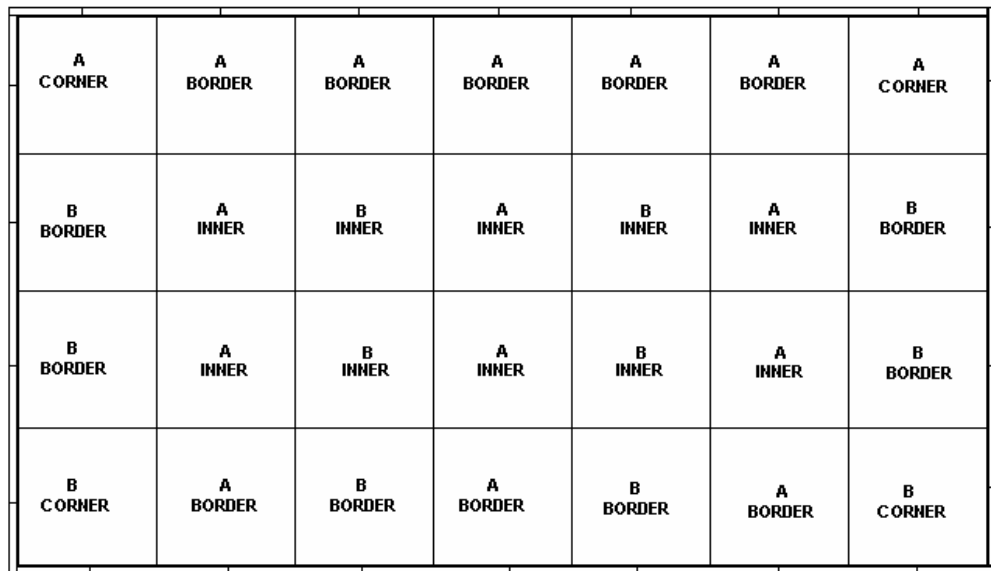

Figure 31
29. Your floor is now fully assembled and should look like (Figure 31)